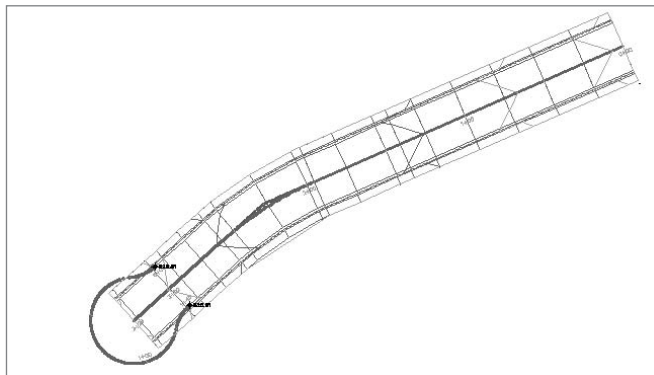

Figure A.75
1. Open the `More Corridors2.dwg` file. Note that there is an alignment that follows the EOP for a cul-de-sac, as well as a corresponding profile. There is also a corridor, a corridor surface, a few assemblies, and some Intersection EOP labels, as shown in Figure A.75.